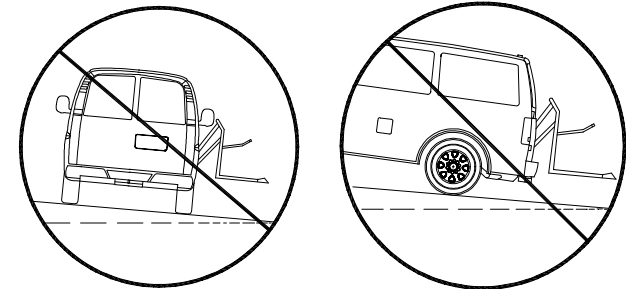

FIGURE 2-1: UNSAFE VEHICLE SLOPING
- Refer to **Figure 2-1**. A dangerous situation may exist when using the lift on a slope since the platform will slope parallel to the street.